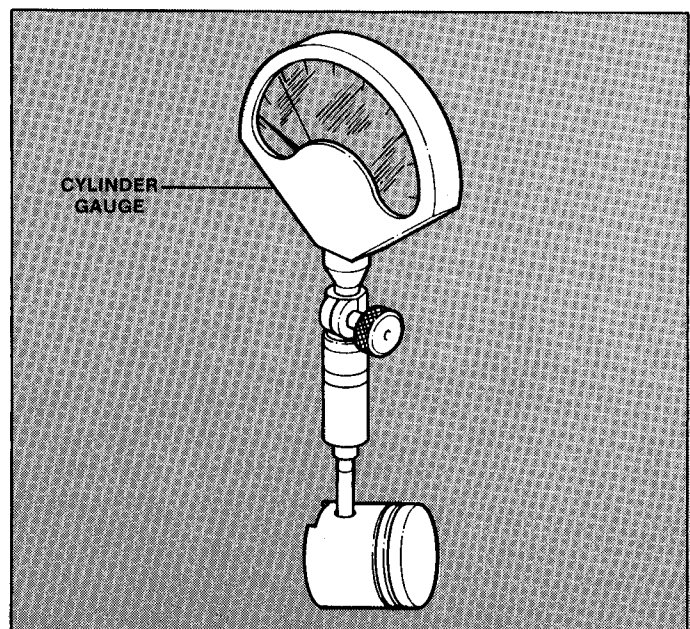

FIGURE 2.17
1. Using a cylinder gauge, measure the inside diameter of the piston wrist pin hole. See Figure 2.17.